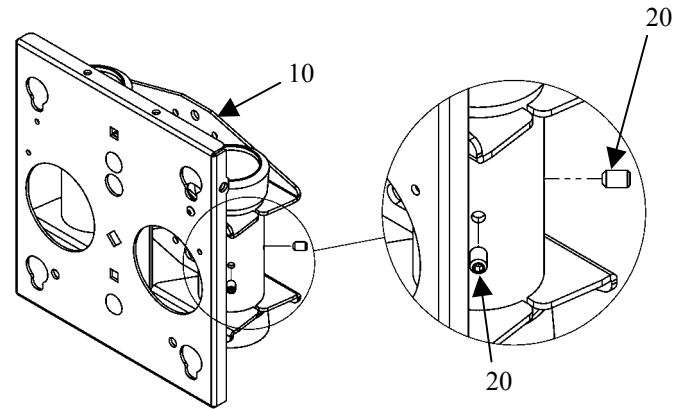

Figure 2. Insert Setscrews Loosely (4 Places)
1. Using the 5/32" hex key (30), insert two setscrews (20) into each collar on the MAC-144 (10). See Figure 2.